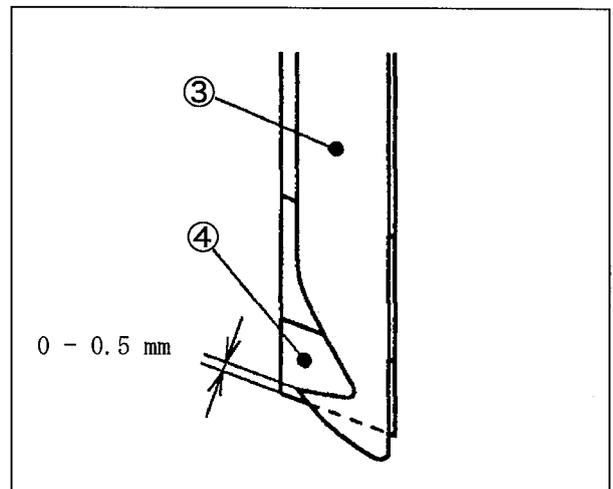

Fig. 50
The engagement between the movable trimming knife ③ and the fixed trimming knife ④ has been adjusted as shown in Fig. 50.